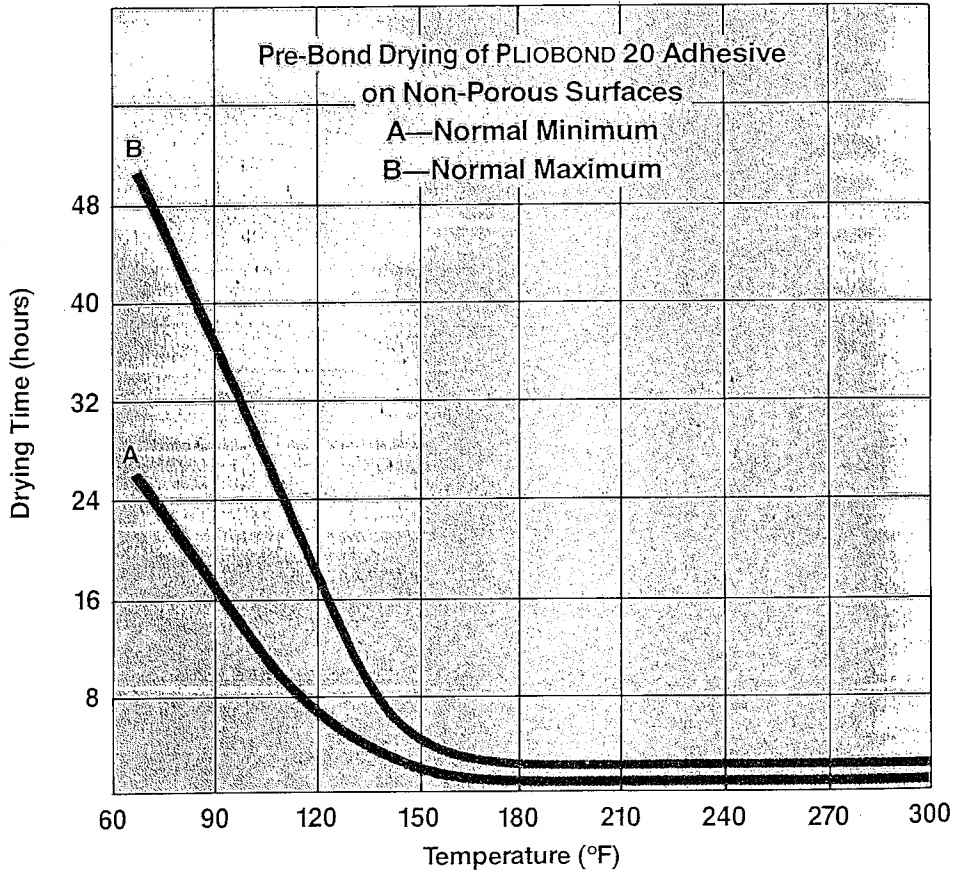

Figure 1
Dry bonding is superior to other methods for impervious surfaces. Before making the bond, the films should be dried on a time-temperature schedule (Figure 1). This procedure should be followed for all of the dry bonding methods and, to a limited extent, for reactivation bonding.
2. Allow the adhesive to dry thoroughly. (Figure 1).
6. Dry per Figure 1.
2. Dry per Figure 1.
3. Dry per Figure 1.